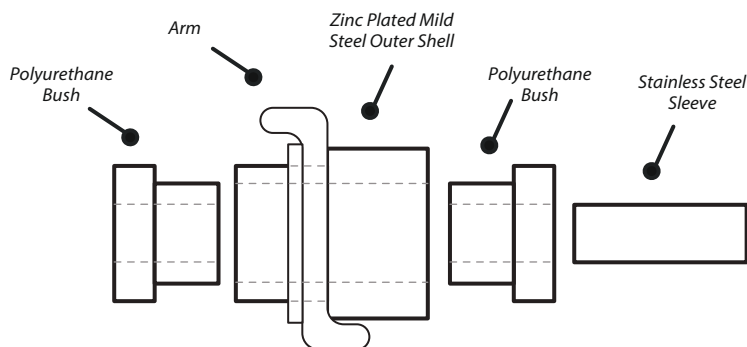

Figure 2 - Assembly of Polyurethane Bushes and Stainless Steel Sleeve
3. Insert two of the Polyurethane Bushes into each end of the brim of the Outer Shell, ensuring each brim of the Polyurethane Bush sits flush with the outer face of the Zinc Plated Mild Steel Outer Shell, please reference Figure 2 for the alignment.